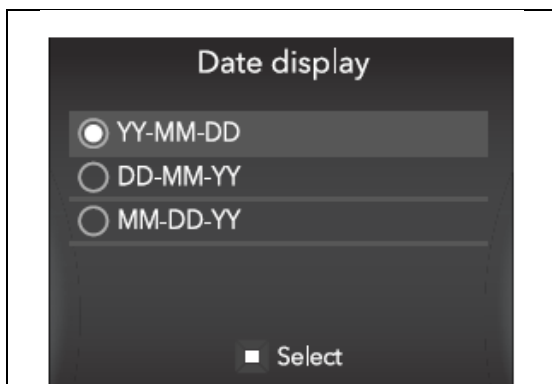

Figure 38
45. Follow the prompts to set the preferred date and time format. (See Figures 38 and 39.)